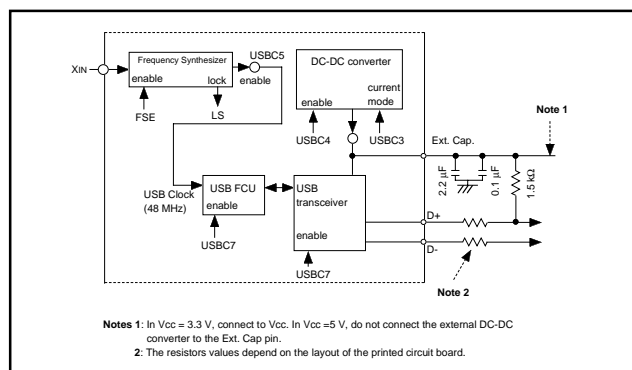

Fig.95 Peripheral circuit
•Connect a capacitor between the Ext. Cap. pin and the Vss pin. The capacitor should have a 2.2 μ F capacitor (Tantalum capacitor) and a 0.1 μ F capacitor (ceramic capacitor) connected in parallel. Figure 95 for the proper positions of the peripheral components.